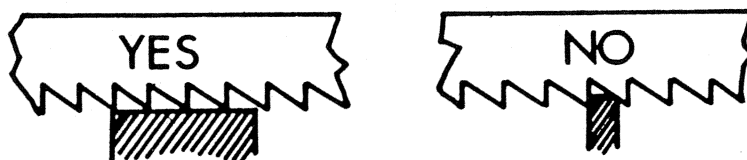

FIGURE 5
1. At least two teeth of the selected blade should always be engaged in the material (Figure 5). Otherwise, the moving teeth will tend to grab the material causing tooth breakage and possible blade failure. Thin materials will require fine pitch blades (more teeth per inch).